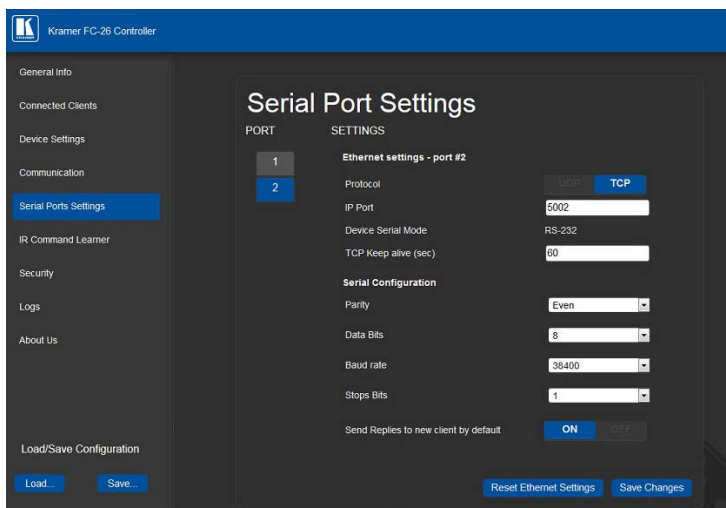

Figure 139: Control Gateway Device – FC-26 Serial Port Settings Web page
1. Click Select Proxy (Gateway), and fill in the details from the **FC-26** Web page (see Figure 139).